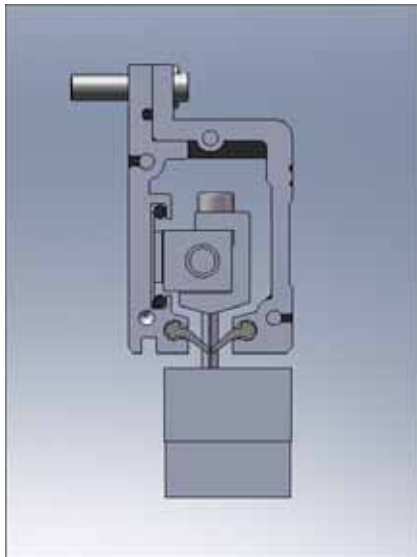

Fig. 5.15 Installation of strip
**(10) Installation of sealing strip:** Close the sealing strip with toothed edge for dust proofing as shown in Fig. 5.15.